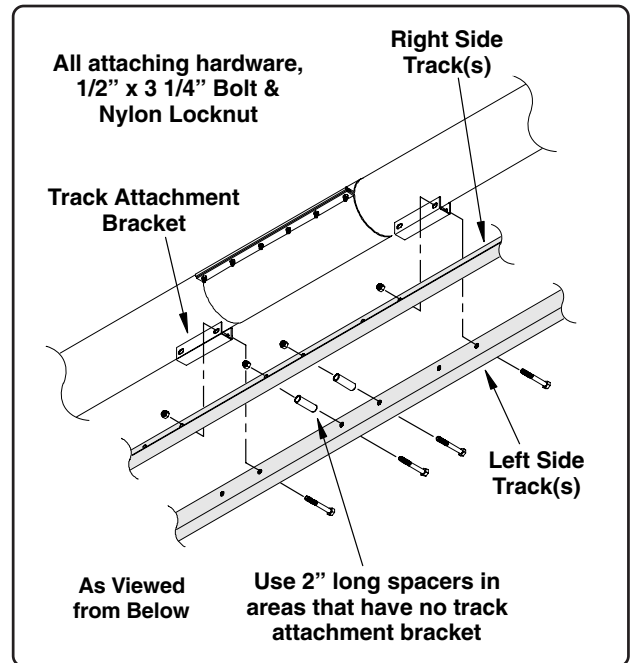

Fig. 22
When installing the track sections you will note that some of the track mounting holes will not have a mounting bracket on the housing in which to attach to. These areas will generally be located under the connecting bands, use the 2" long spacers in these locations (the spacers will be positioned between the tracks as shown in Fig. 22).
2. Align the track mounting holes with the mounting brackets welded to the bottom side of the auger tubing. Secure the tracks to the mounting brackets using 1/2" x 3 1/4" bolts and nylon locknuts (use the 2" spacers in the locations that have no mounting brackets as shown in Fig. 22, these locations are generally beneath the connecting bands).